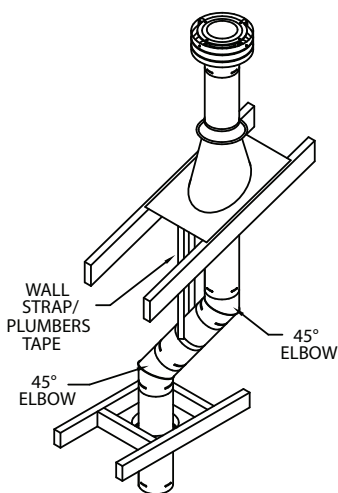
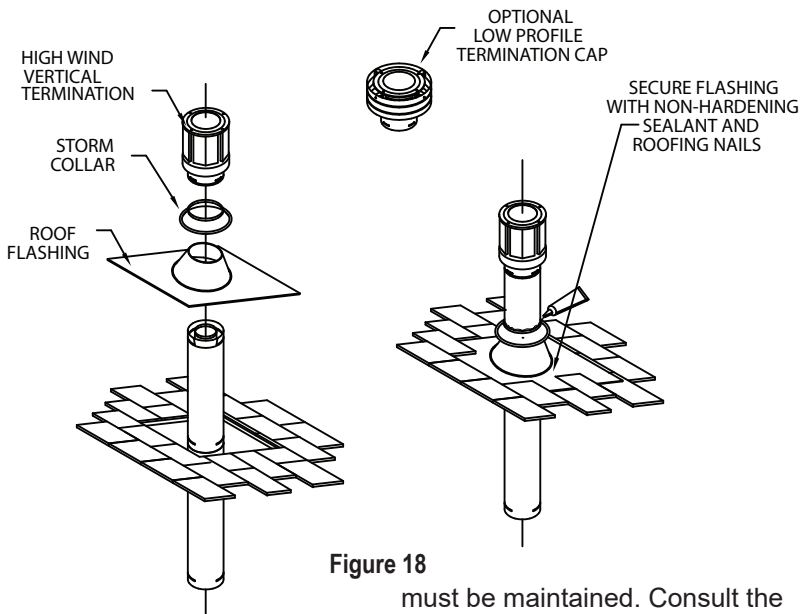

Figure 16
Figure 18
(2) If an offset is necessary in the attic to avoid obstructions, it is important to support the vent pipe in order to avoid excessive stress on the Elbows. Wall Straps or plumbers tape may be used for this purpose (**Fig. 16**).
(3) Wherever possible, use 45° Elbows instead of 90° Elbows. The 45° Elbow offers less restriction to the flow of flue gases and intake air.
Step 7. Slip the Roof Flashing over the Pipe Section(s) protruding through the roof. Use a non-hardening sealant between the Roof Flashing and the roofing to prevent water leakage. Secure the base of the Roof Flashing to the roof with roofing nails. Ensure the roofing material overlaps the top edge of the Roof Flashing (**Fig. 18**).
Step 9. Slip the Storm Collar over the Pipe Section, and push it down to the top of the Roof Flashing (**Fig. 18**). Use non-hardening sealant between the Storm Collar and the Pipe Section.